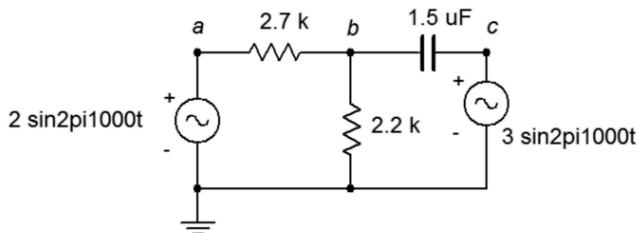

Figure 5.1
1. For the circuit shown in Figure 5.1, use Superposition to find  $v_b$ .
2. For the circuit shown in Figure 5.1, use Superposition to find the current through the capacitor.